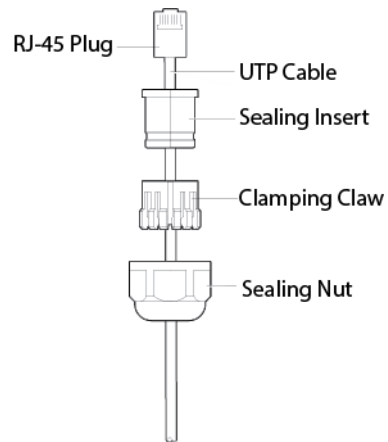

Figure 12. Applying the Sealing Parts to the LAN Cable
3. Pass the LAN cable through the sealing nut, and attach the sealing insert and clamping claw to the cable as shown in Figure 12 on page 40.